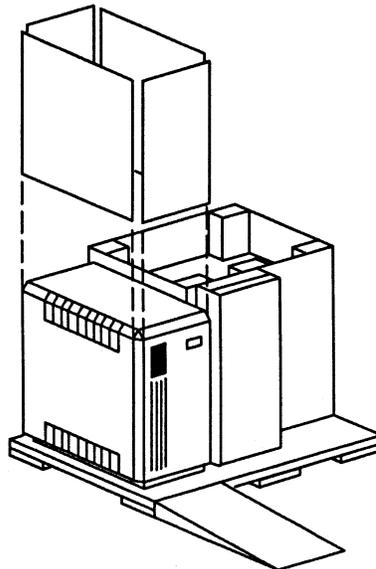

Figure 1-2. Unpacking Model 32 and 31 CADDStations
6. Line up the two bolts on the plywood ramp with the two holes on the pallet. See Figure 1-2.
Figure 1-2 shows you how to unpack Model 32 and 31 CADDStations.